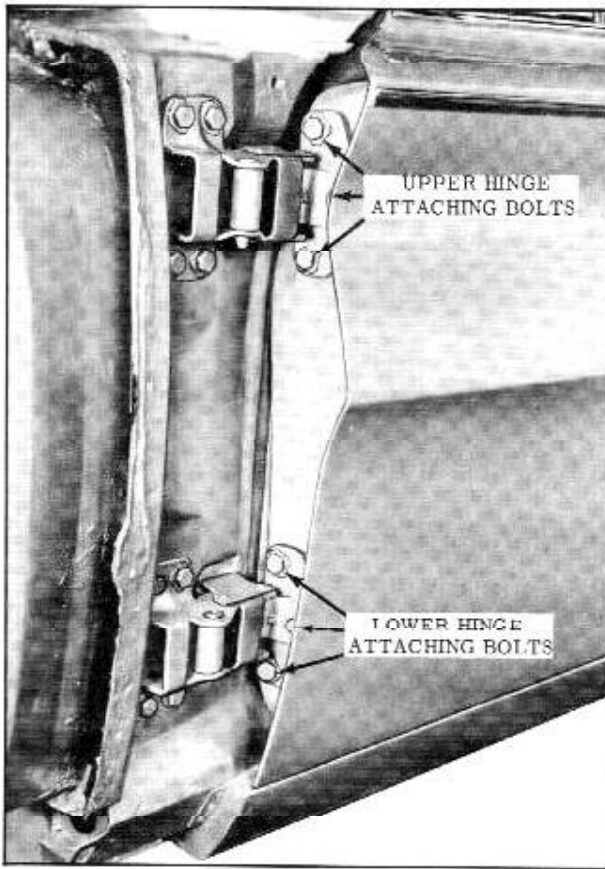

Fig. 15-29 Front Door Hinge Attachment to Door
To remove the front door assembly from the hinges, proceed as outlined previously only remove the door to hinge bolts and it will not be necessary to remove the lower fender attaching bolt, (Fig. 15-29)
2. Loosen hinge attaching bolts. (Fig. 15-29) Shift door to desired position, then tighten hinge attaching bolts.